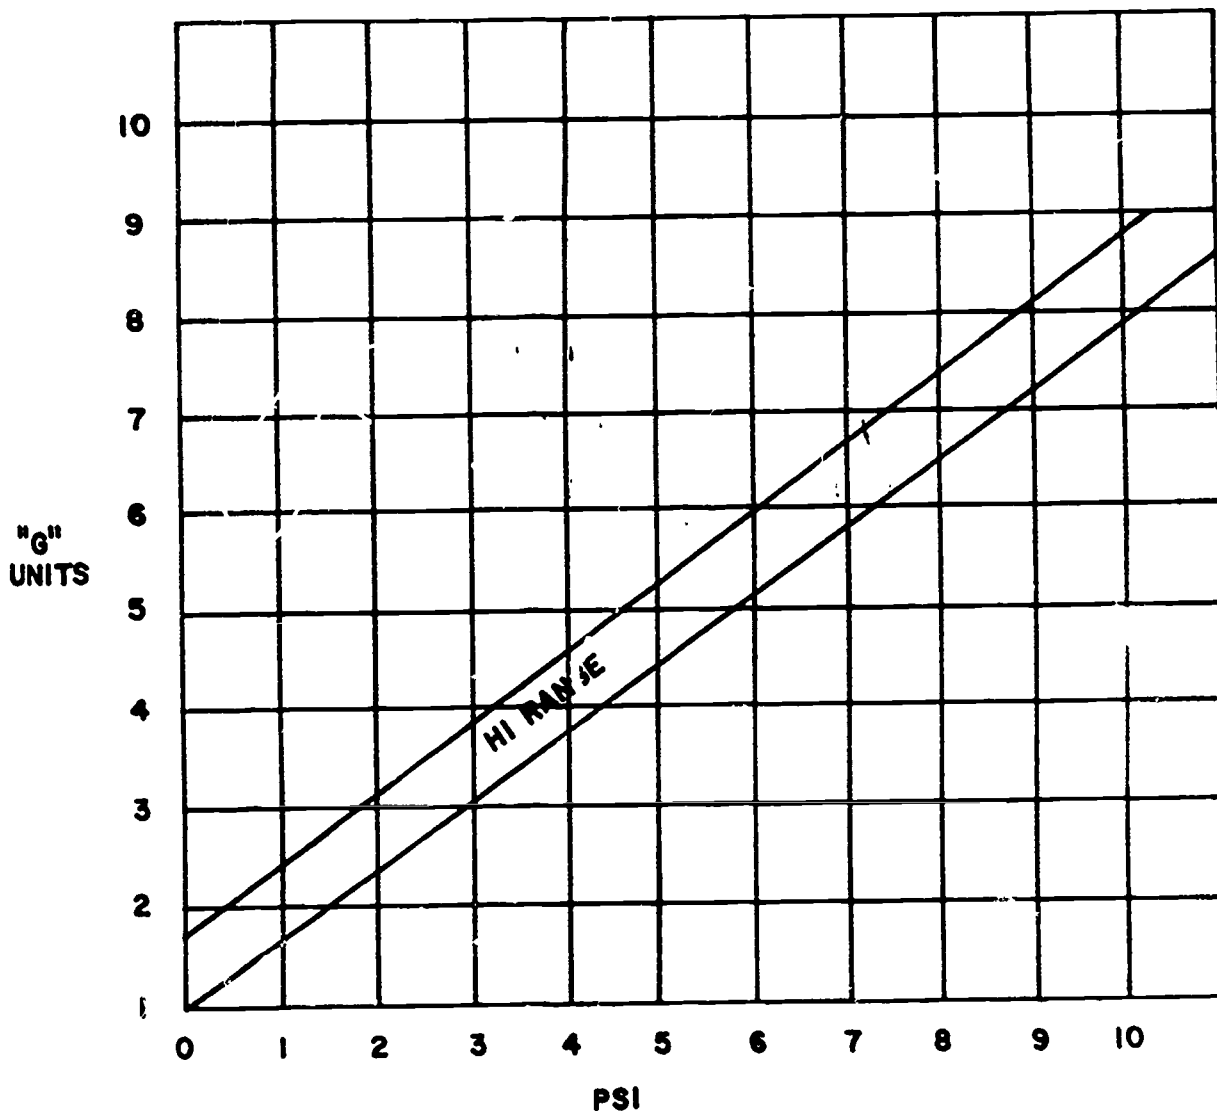

Figure 9. HI Range Graph.
5. Refer to figure 9 of this workbook. The HI Range Graph indicates the air pressure required for a given number of "G" units. The pressure indicated by manometer M4 should fall between the two diagonal lines. The vertical lines indicate the value of the weights (G units) placed on the push-to-test button. Read from this line horizontally to the pressure (psi) indicated by manometer M4. If the manometer pressure indication does not fall between the diagonal lines, an adjustment must be made to the demand valve.